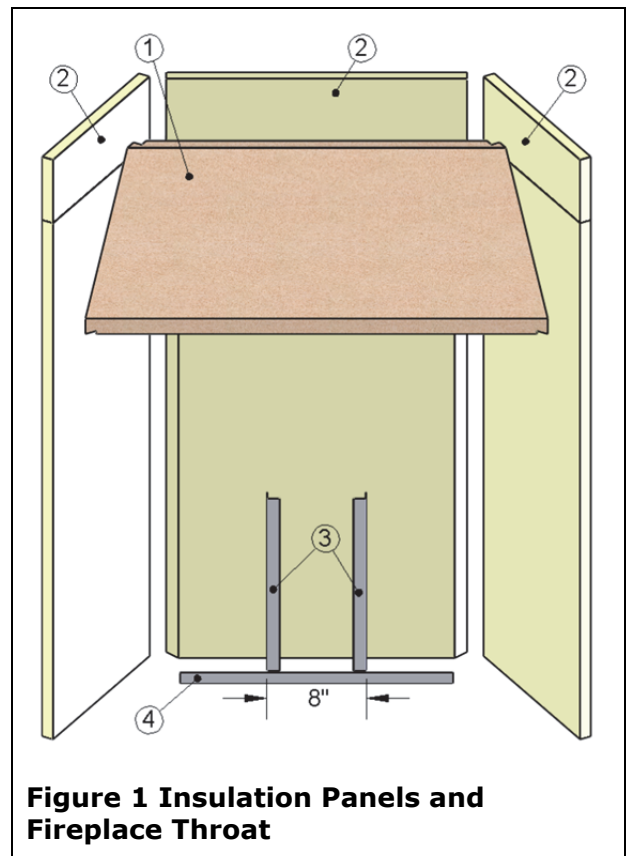

Figure 1 Insulation Panels and Fireplace Throat
Please refer to Figure 1 while following the installation procedure below:
1. First, find the throat refractory brick (1). The insulation panels (2) are already installed in your fireplace.
2. Take the throat refractory brick (1) and hold the wider part of the throat refractory brick with your two hands, flat face towards you. Place yourself down on your knees in front of the fireplace opening. Tilt and slide the throat refractory brick inside the firebox along the flue divider at the top of firebox. Slowly slide the throat refractory brick up so you can lay it on the $\frac{5}{8}$ " bend. Let the throat refractory brick tilt back. It will stay in place by itself.
3. Place the two shorter refractory support brackets (3) against the back insulation panel so that they are centered and 8" apart as shown in Figure 1. They provide a sturdy backing for both the lower back refractory bricks and the middle back refractory brick. Use the brackets as a straight edge and cut a slit in the back insulation panel and insert the refractory support brackets so they can rest firmly against the back wall of the firebox.
- Place the longer refractory support bracket (4) on the bottom of the firebox in front of the other two support brackets in the orientation shown in Figure 1.